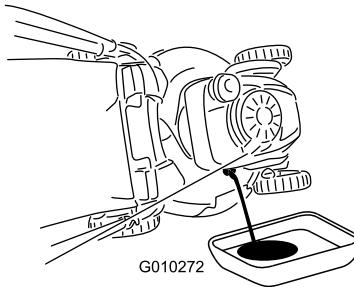

Figure 40
7. Tip the machine onto its side, with the oil-fill tube down, to drain the used oil through the oil-fill tube into the oil-drain pan (Figure 40).